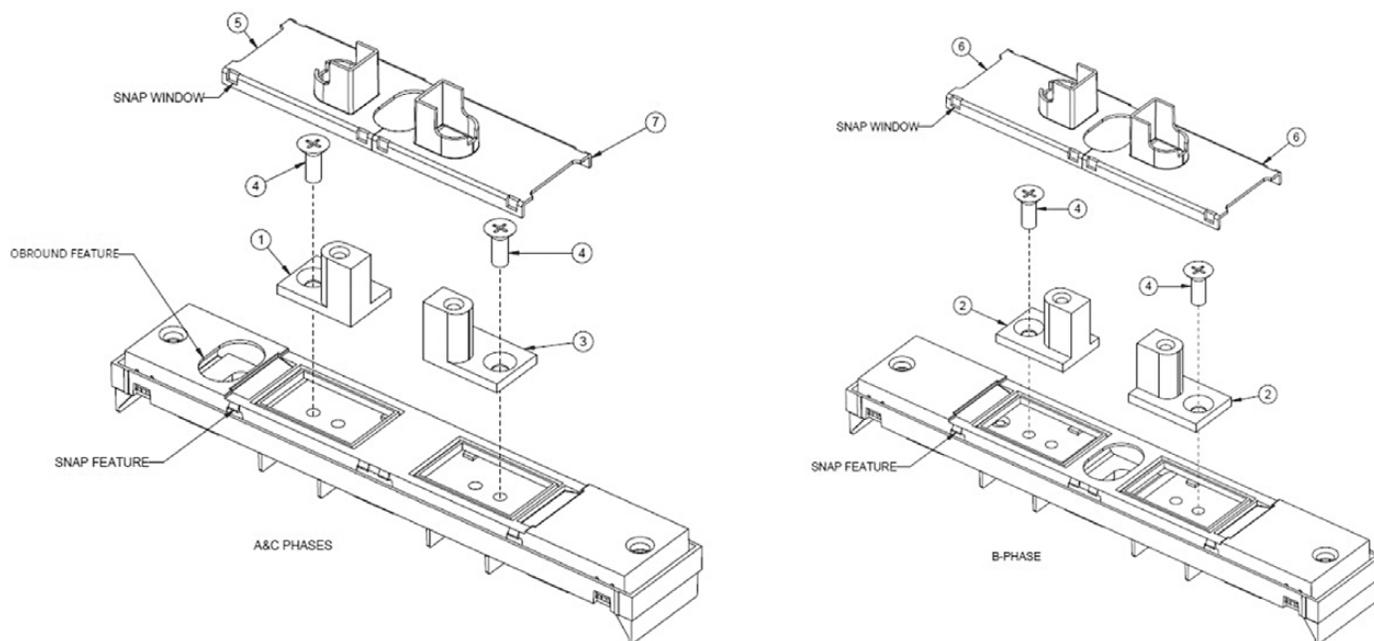
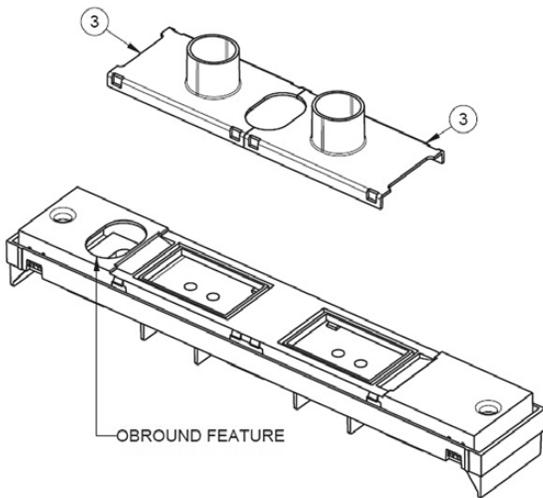

Figure 1. Installation of XT2 spools and covers
Figure 4. Installation of FB cover
Use the following procedure to install an XT2 and/or FB breaker mounting kit into a ReliaGear lighting panelboard. Call-out numbers in the illustrations and numbers in brackets in the text refer to the Item Numbers in Tables 1 and 2. Installation of an XT2 breaker mounting kit is illustrated in Figures 1, 2, and 3. Installation of an FB breaker mounting kit is illustrated in Figures 4, 5, and 6.
3. Snap the spool cover provided [3] as shown in Figure 4.